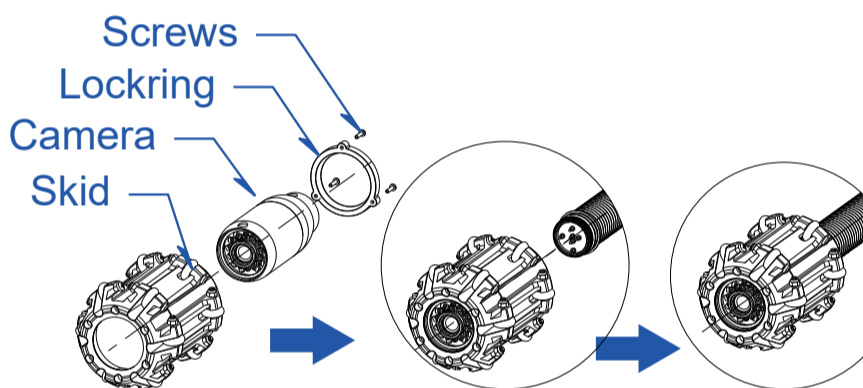

Figure 13. 72 Roller skid
1)Install 72 Roller Skid.(See Figure 13)